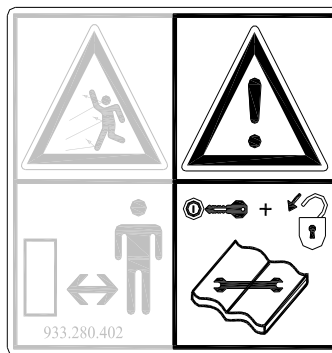
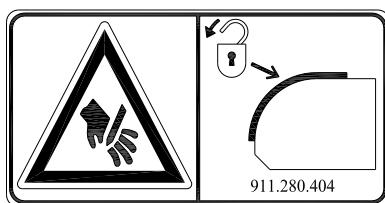

Figure 2
Figure 5
**Always switch off the tractor motor, take the tractor's key out of the ignition and disconnect the PTO** in case of maintenance, adjusting and repairs (Figure 2).
Safety stickers with an identical meaning are attached to the rear cover (Figure 5 and 6) and to both sides (Figure 2, 3 and 4) of the Turf-Stripper. These safety stickers must always be clearly visible and legible and must be replaced if they have become damaged.
**The rear cover must always be closed and undamaged while operating the machine!** (Figure 5)